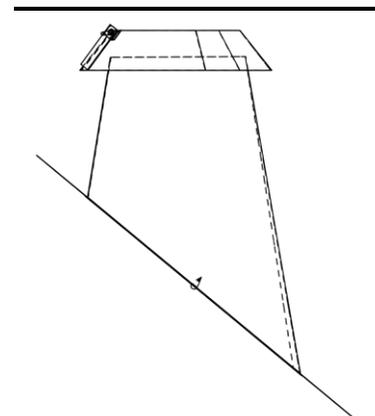

FIGURE 24 **STORM
8. Place the storm collar over the chimney and flashing (see Figure 24). Seal the collar to the chimney with silicone (high temperature not required).